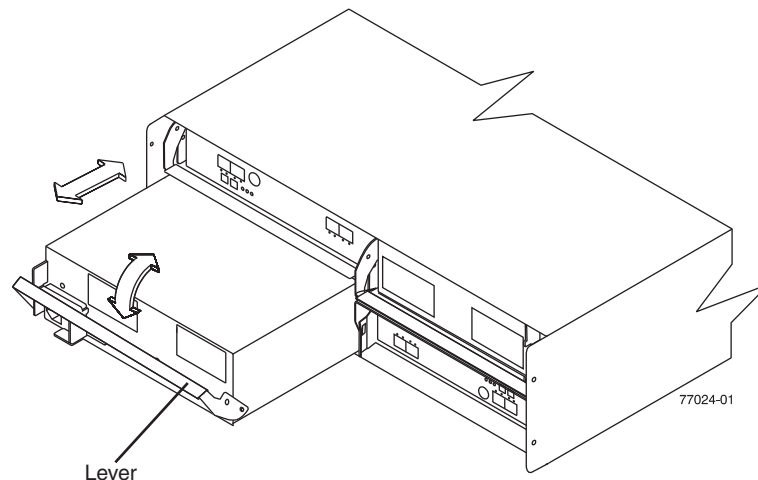

Figure 35. Replacing a power supply and fan unit
Use the following procedure to replace an ac power supply and fan unit. Figure 35 on page 81 illustrates removing and inserting a unit.
11. Slowly pull the lever away from the chassis to remove the power supply and fan unit, as shown in Figure 35.